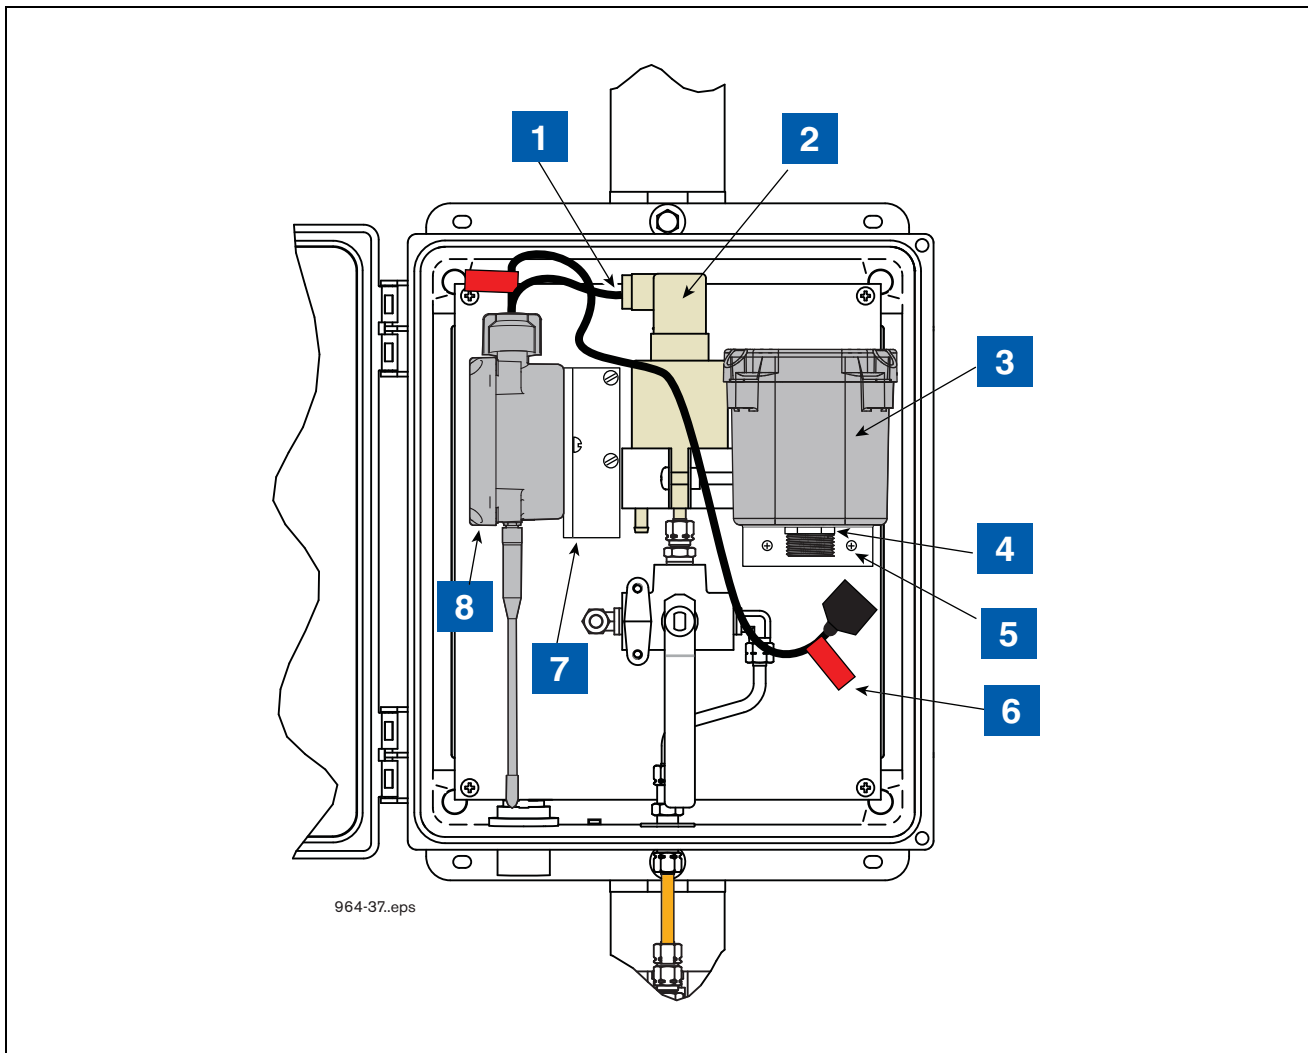

Figure 23. Example VRPS Transmitter/battery Pack Installation In The Universal Enclosure
5. Get the thin hex nut from the kit and screw it onto the battery housing cable connector threaded fitting until snug (see item 4 in Figure 23).
6. Attach the battery housing/bracket assembly to the back mounting surface of the Universal Enclosure using two #10 taptite screws from the kit (see item 5 in Figure 23).
LEGEND FOR NUMBERED BOXES IN Figure 23